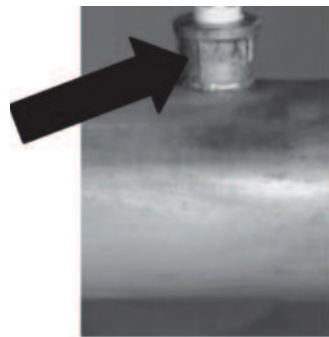

Fig. 22: Installation with Weld O Lets
**NOTE:** The drawings and instructions above show only one of several acceptable ways of installing the dry well into main system loop. The use of saddle clamps and "Weld O Lets" (shown in Fig. 22) are acceptable. Follow clamp manufacturer's instructions.